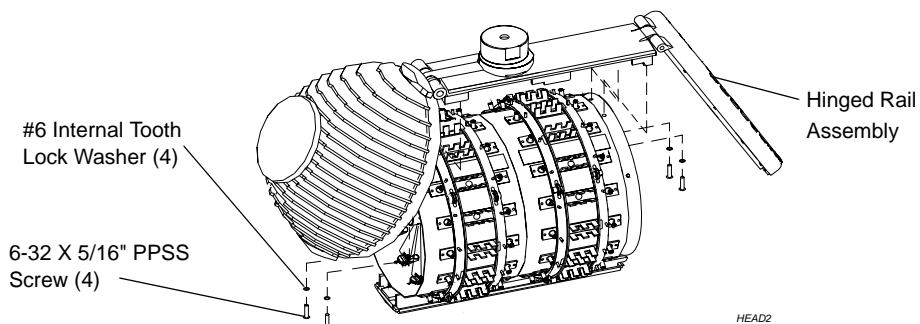

Figure 2-17: Removing Hinged Rail Assembly
- b. Remove hinged rail assembly. **Figure 2-17.**